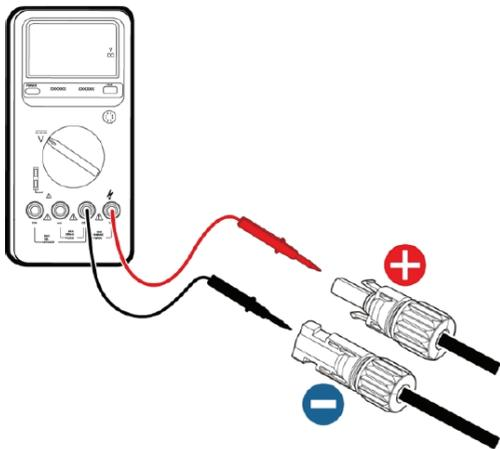

Figure 15 DC input voltage measuring
(3) After the DC connector is connected, use a multimeter to measure the voltage of the DC input string, verify the polarity of the DC input cable, and ensure that the voltage of each string is within the allowable range of the inverter, as shown in Figure 15
(4) Connect the DC connector with the inverter and ensure tightly-fastened; (5) When removing the DC connector from the inverter, insert the head of the straight screwdriver into the raised hole in the middle of the connector, and force the movable end of the connector to exit.